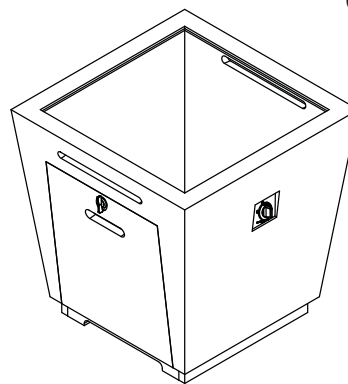

Fig. 20-1 Place base
1. **CAREFULLY** place the base in an appropriate location (see Fig. 20-1, and refer back to the LOCATION section if needed).